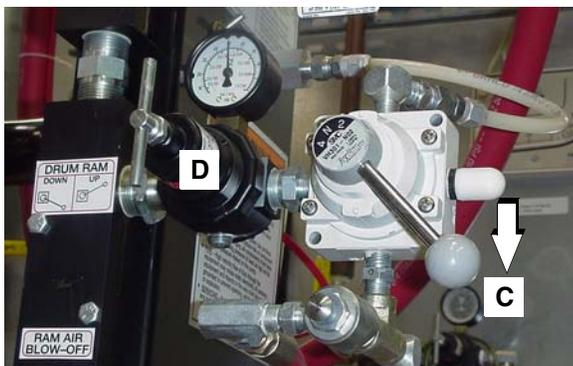

FIG. 11
- Lower the ram plate into the drum (move ram lever to DOWN), FIG. 11.